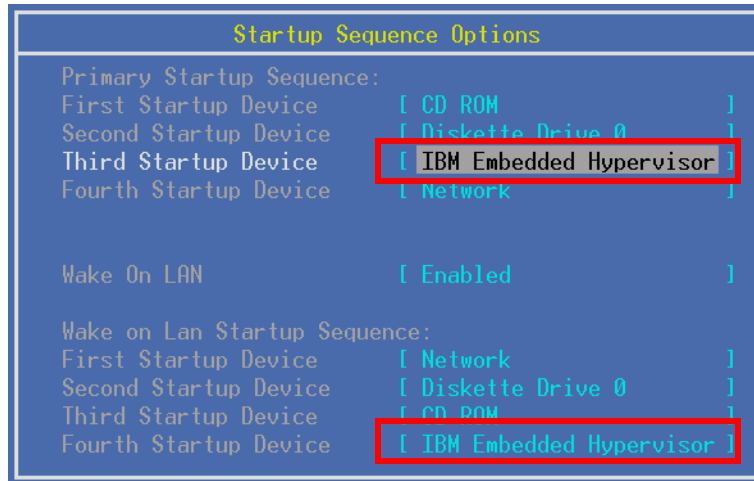

Figure 5-12 IBM Embedded Hypervisor configured as a startup device after CD-ROM and diskette drive 0 in system BIOS
3. In **Start Options** → **Startup Sequence Options**, set the following startup sequences to **IBM Embedded Hypervisor**, also shown in Figure 5-12 on page 266: